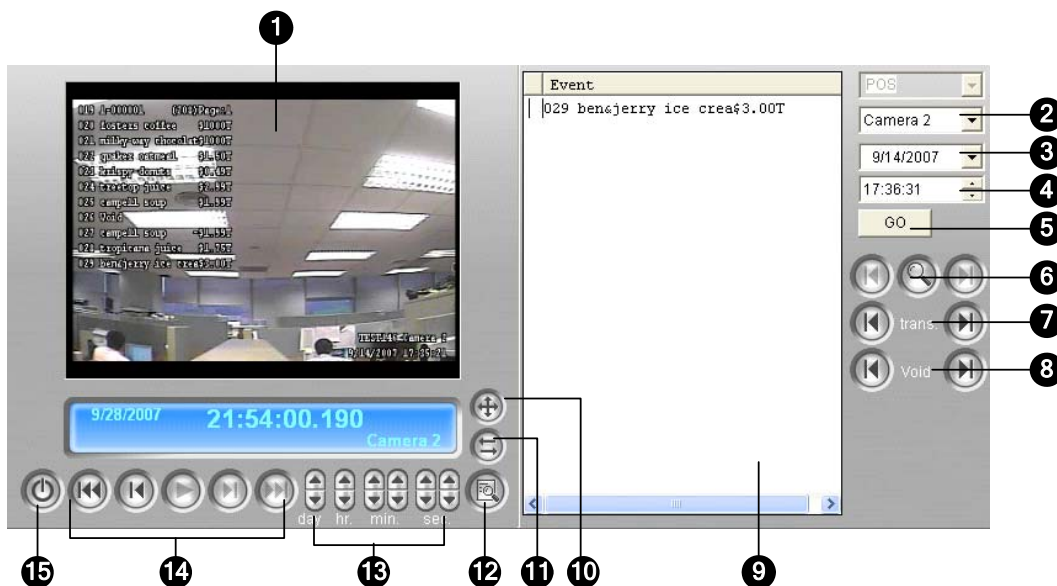

Figure 4-27 Quick Search
Click the **Event Query** button (No. 6, Figure 4-27) on the Quick Search window, and the following dialog box will appear. Use this function to find POS events by a specific item, transaction, or date.
1. Click the **Expand/Shrink Dialog** button (No11, Figure 4-27), and select **Advanced Search**. The Advanced Search panel appears.